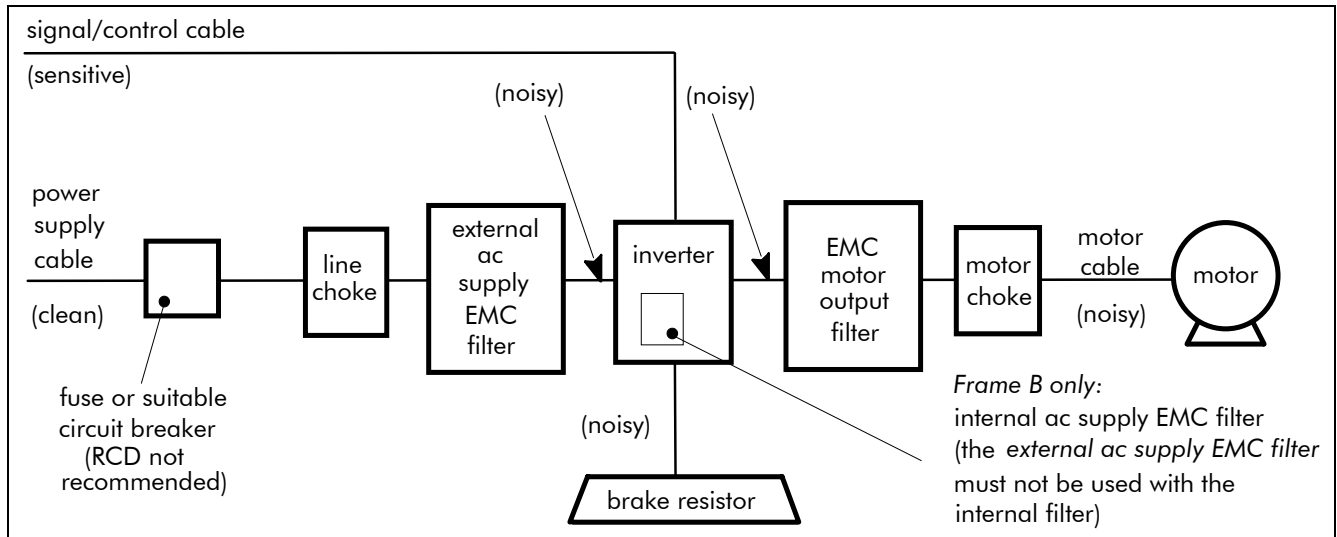

Figure 3-14 Cabling Requirements
2. Feed the motor cables into the cubicle using the correct cable entry glands ensuring the screen is connected (see Figure 3-14 Cabling Requirements, page 3-12).